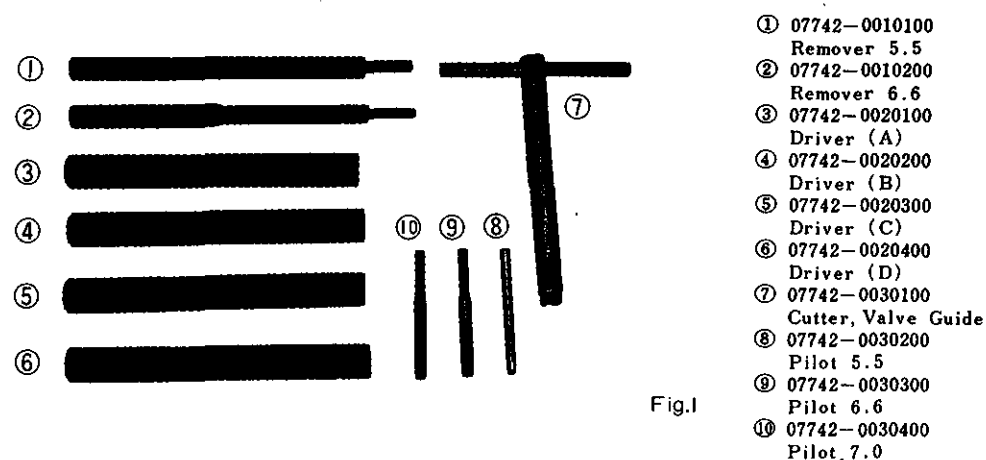
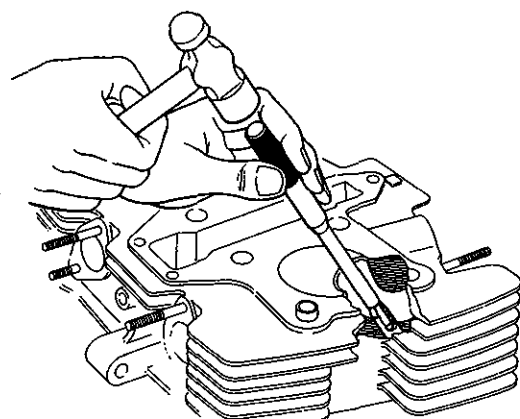
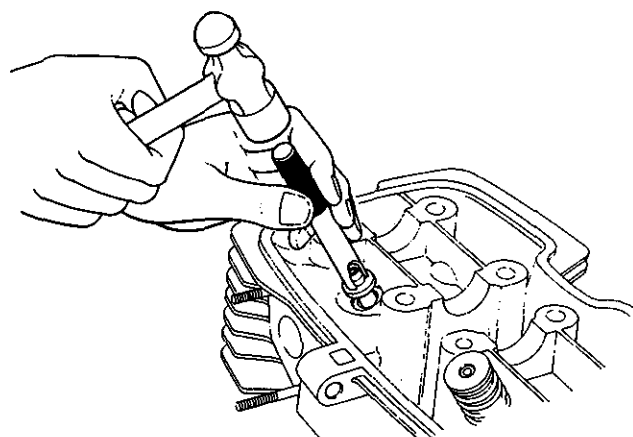

Fig.1
Fig.2
Fig.4
This tool is used driving valve guides in or out and for cutting the ends of the valve guide(Fig.1)
- ①When driving out the valve guide
Use a remover (Fig.1-①②) matching the inside diameter of the valve guide and drive out the valve guide with a hammer. (Fig.2)
- ②When cutting the valve guide
Fit pilot matching the inside diameter of the valve guide(Fig.1-⑧~⑩) to the cutter holder (Fig.1-⑦).
- ③When driving in the valve guide
Fit driver(Fig.1-③~⑥)matching the outside diameter of the valve guide as shown in Fig.4 and drive in with a hammer. However, there are some types of vehicles in which the remover (Fig.1-①②) is also used for driving in the valve guide.